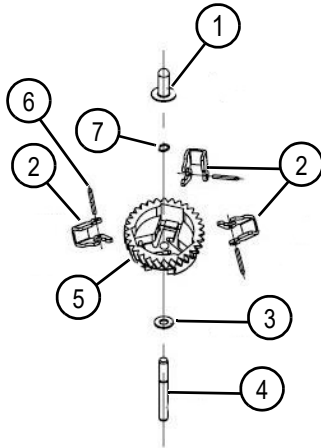

Figure 4-8: Governor Assembly
1. See Figure 4-8. Check the gear for damage before installation.